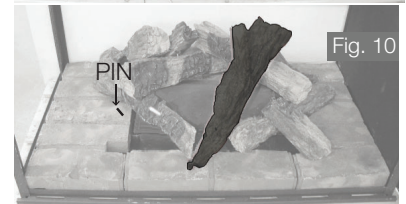

Fig. 10
- Place log #10 onto the pin located in log #7 and let it rest in the middle of the right side hearth pad, as shown in Figure 10. Place one pin into log #1 (**FIG.10**).